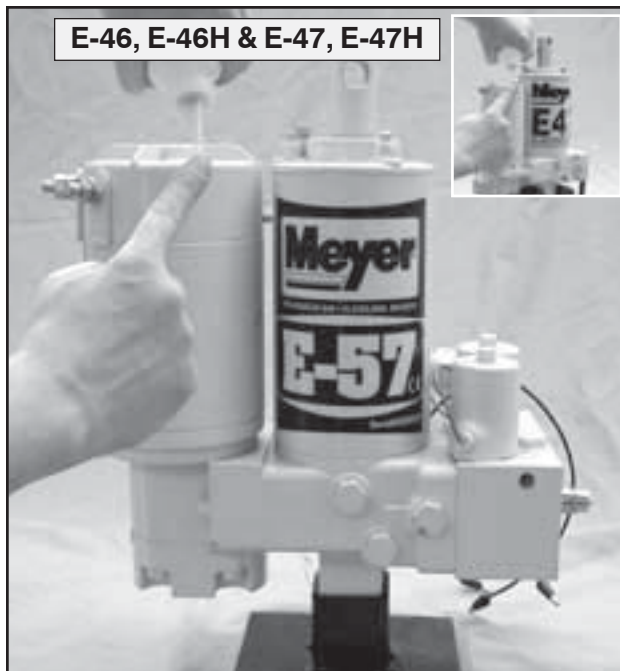

FIGURE 3-40
9. Torque the cap screws and seal the cap screw heads as shown in Figure 3-40.